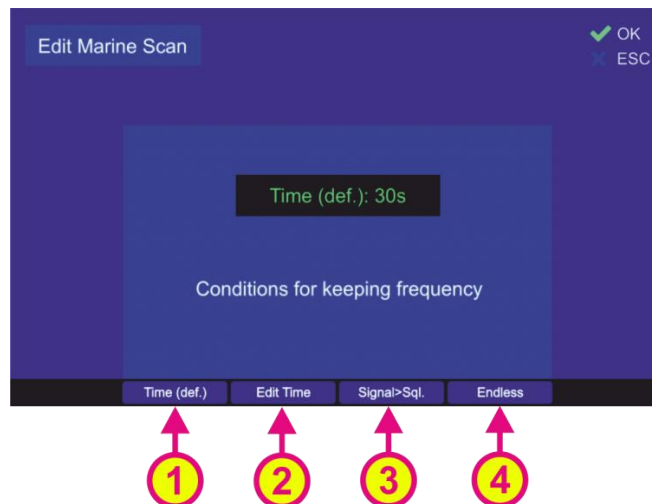

Fig. 42 Marine scan settings
- Pressing the hotkey “Edit Scan” (s. Fig. 41, position 6) will open the dialog for changing the settings of the marine scan (s. Fig. 42).
- “Time (def.)” hotkey (s. Fig. 42, position 1) defines the behavior of the marine scan algorithm if the active frequency (signal level > squelch level) has been found. If this hotkey is pressed, the default time of 30 seconds will be adopted after confirming this setting with “OK”. Marine scan algorithm will stay for the default time of 30 sec on an active frequency before continuing with scanning of the lower marine band.
- Pressing the hotkey “Edit Time” (s. Fig. 42, position 2) will open a dialog for editing the time of staying on the actively received frequency before continuing with the scan procedure.
- Pressing the hotkey “Signal>Sql.” hotkey (s. Fig. 42, position 3) defines the time of staying on the actively received frequency before continuing with the scan procedure. If this setting is confirmed, the scanning procedure will stay on the actively received frequency as long as the signal level is higher than the squelch level.
- If the hotkey “Endless” (s. Fig. 42, position 4) was pressed and confirmed with “OK”, the marine scan algorithm will stay on the actively received frequency as long as the user terminates the scan or skips the current frequency.